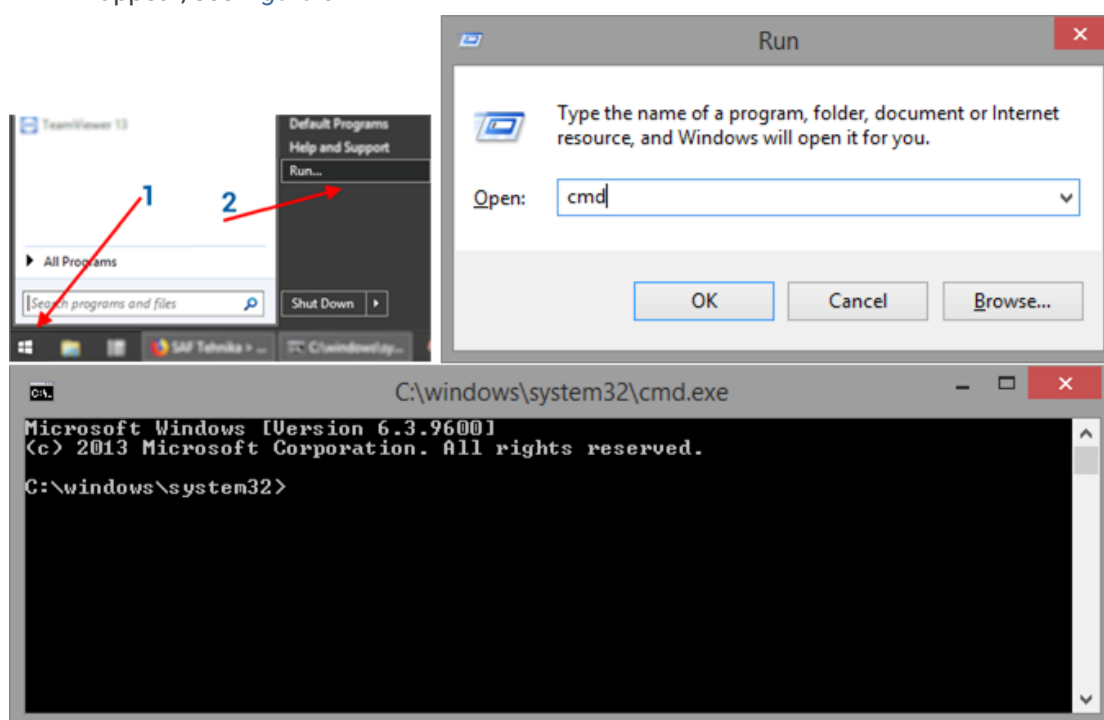

Figure 6-1 Windows cmd console
- 2) The application is started via the command prompt (on your Windows machine Start menu→Run→type "cmd"→press ENTER). The command-line console window should appear, see *Figure 6-1*.